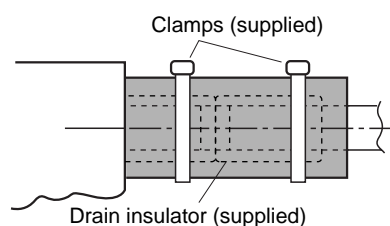

Fig. 3-27
- (2) After checking the drainage with a drain test, wrap the accessory packing and drain pipe insulator around the pipe, then secure it with the supplied clamps. (Fig. 3-27)